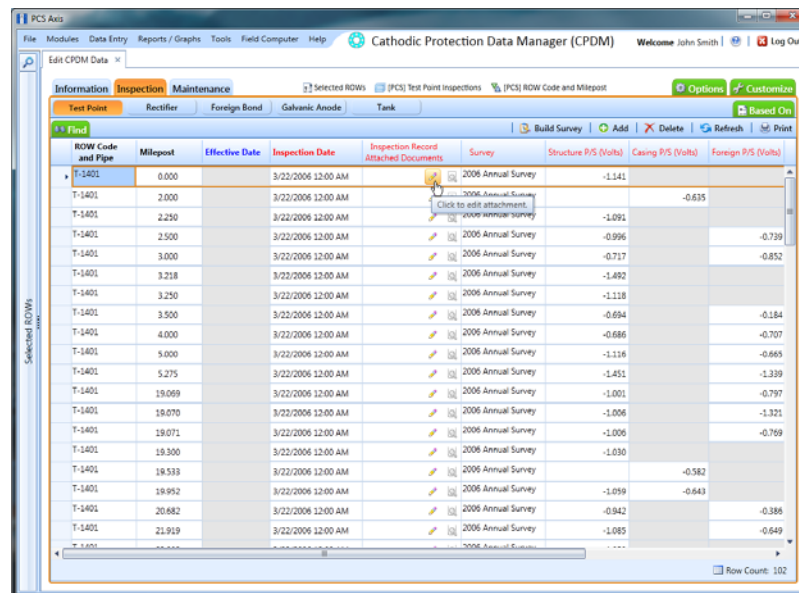

Figure 6-83. Attached Document Field
- 5 Click the edit icon  in the **Attached Documents** field for the grid record you plan to attach a document (Figure 6-83).